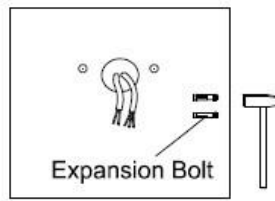

Figure 10
- Step 2. Tap the expansion bolts into the wall using a hammer (Figure 10).